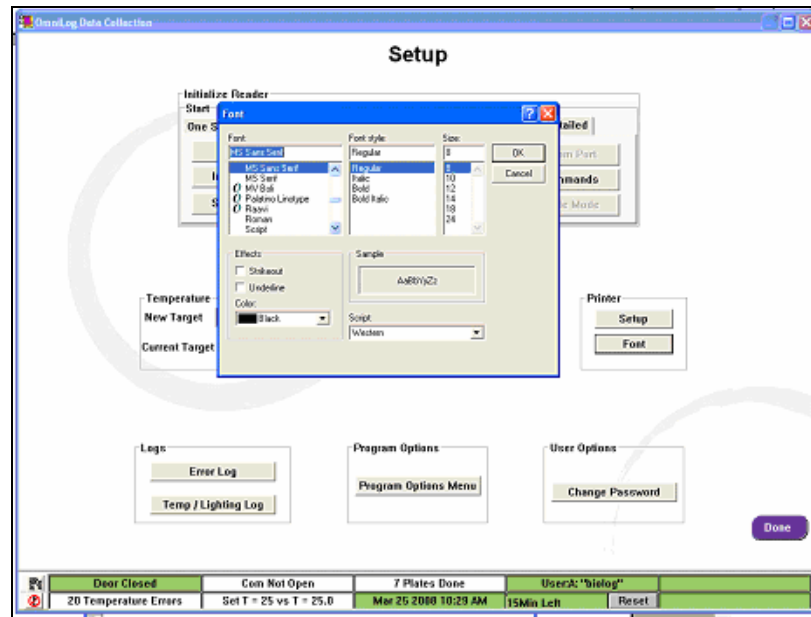

Figure 16 Font Setting (Setup Window)
6. Make your changes and close the **Font** setup window(Figure 16) to return to the **Setup** window.